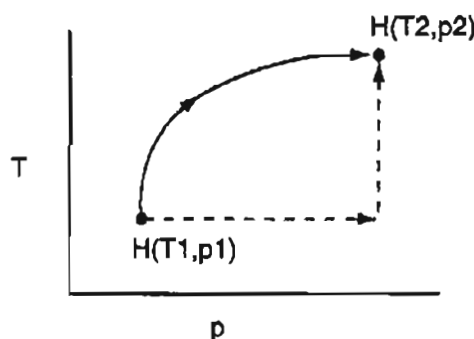

Figure SAT 21.2P2b
2. Will the enthalpy change be greater along the path shown in Figure SAT 21.2P2b by the solid line or by the path shown by the dashed line?